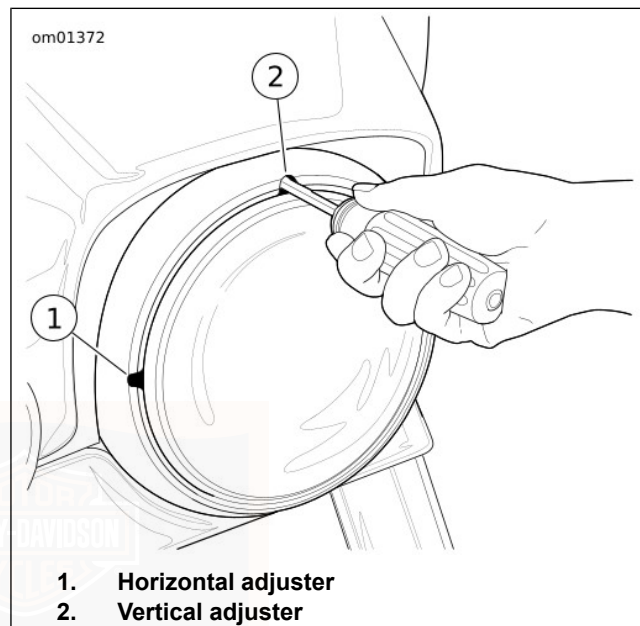
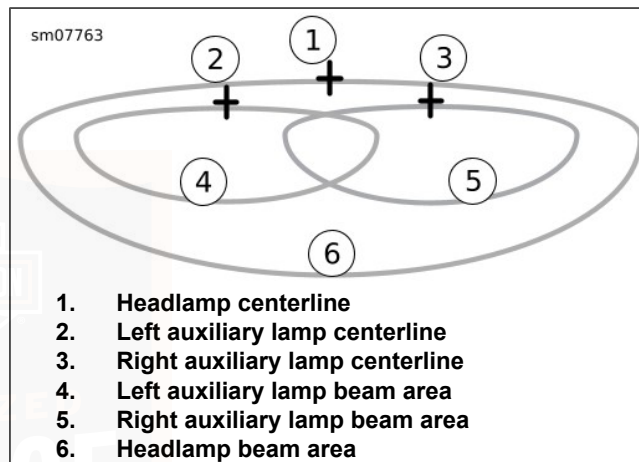

Figure 66. Headlamp Adjusters (typical)
Figure 67. Properly Aim Lamps: LED Type
9. See Figure 67. Verify headlamp alignment. See Figure 65. The headlamp is aligned when the top of light beam hot spot is located as shown with headlamp set to low beam.
2. See Figure 66. Insert a 5/32 ball end hex wrench through adjuster slots in trim ring.
- a. **Horizontal:** Turn the horizontal adjusting screw (1) to adjust light beam left and right.
- b. **Vertical:** Turn the vertical adjusting screw (2) to adjust light beam up and down.
3. See Figure 67. Adjust headlamp to center light beam as shown.
4. See Figure 67. Mark the auxiliary/fog lamp horizontal and vertical centerlines (2, 3) on the wall.
7. Turn on the headlamp low beam and cover both the headlamp and the right auxiliary/fog lamp. Adjust the left auxiliary/fog lamp so the entire high intensity zone (4) is below the centerline as shown in Figure 67.